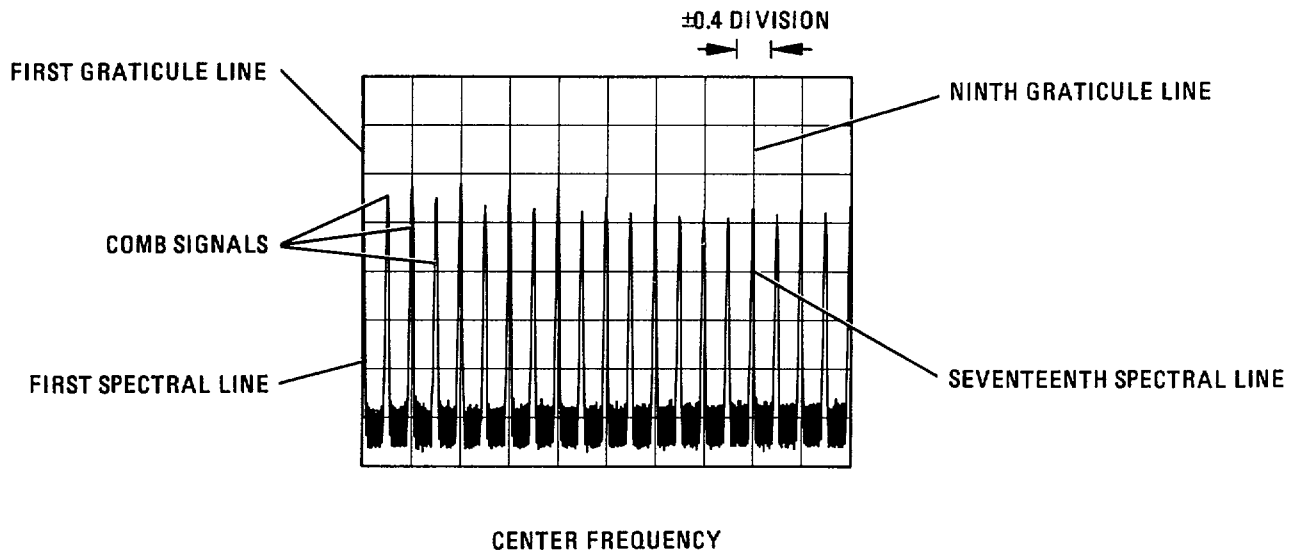

Figure 4-3. Frequency Span Accuracy Measurement for Seventeenth Spectral Line
5. Set comb generator COMB FREQUENCY-MHz for 10-MHz comb. Set spectrum analyzer FREQ SPAN/DIV to 20 MHz. Adjust TUNING control to position one spectral line at first graticule line. Measure error between 17th spectral line and ninth graticule line as shown in Figure 4-3. Error should be no greater than ± 0.4 division.